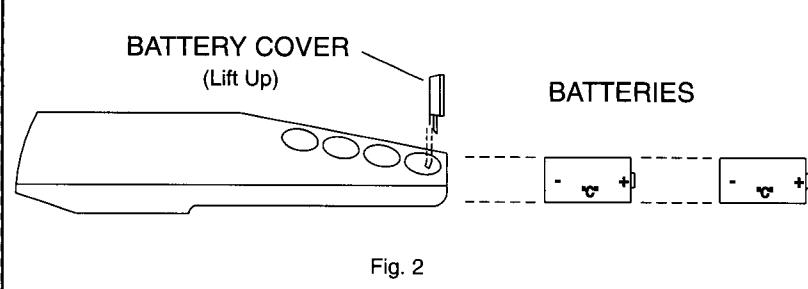

Fig. 2
1. Remove the battery compartment door located on the bottom of the instrument by sliding up, as shown below. Install batteries, Positive Polarity outwards (towards battery door). (See figure 2).